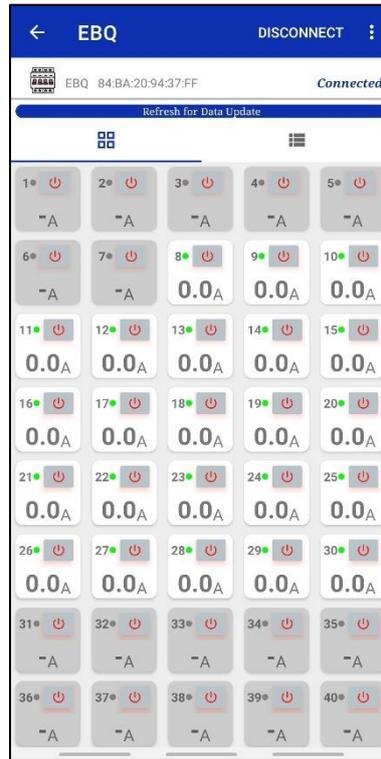

Figure 8 Dashboard page on EBQ Control Apps
1. Presses “Connect” button in the apps, user can control and monitor the EBQ tags in the dashboard page as shown in Figure 8.